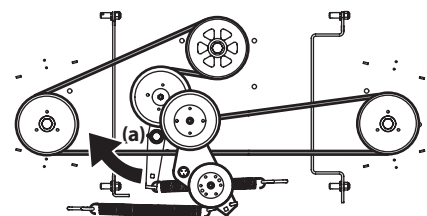

Figure 4-20
5. Using a ½" drive insert the end into the ½" square opening in the deck idler assembly (a) and rotate the deck idler assembly (a) clockwise. See Figure 4-20. While holding the deck idler assembly (a), loosen the deck belt from the pulley and slide the belt away from the pulley.
6. Route the new belt as shown in Figure 4-20. Then reinstall the deck and PTO belt.